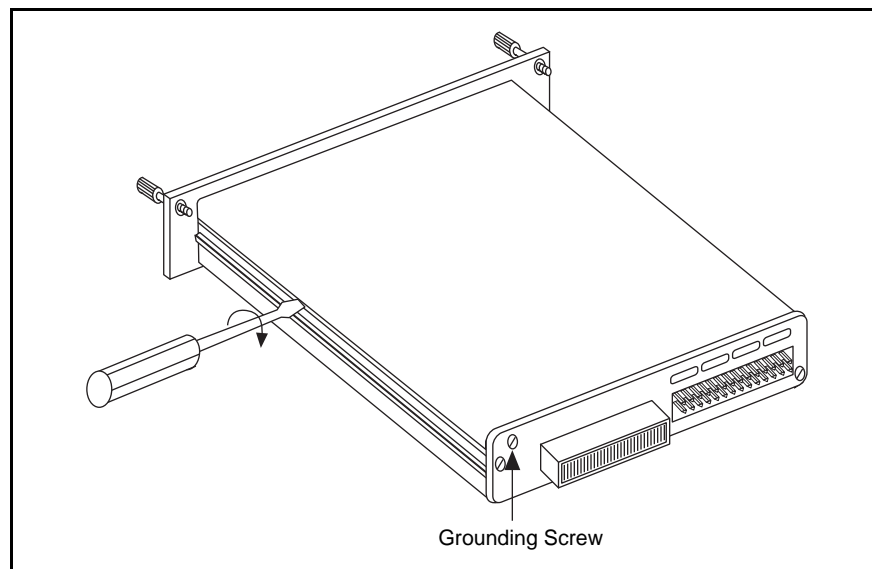

Figure 1. Removing the SCXI Module Cover
Perform the following steps to mount the SH48-48-A cable assembly and connect the TBX-1325 to your SCXI-1124 module. Refer to Figures 1 and 2 as needed.
4. Unscrew the SCXI module grounding screw with a No. 1 Phillips-head screwdriver and remove the module cover (see Figure 1).